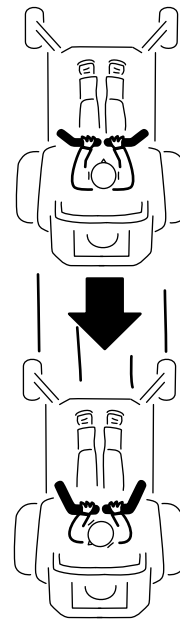

Figure 24
2. To go backward, look behind and slowly pull the motion control levers rearward (Figure 24).